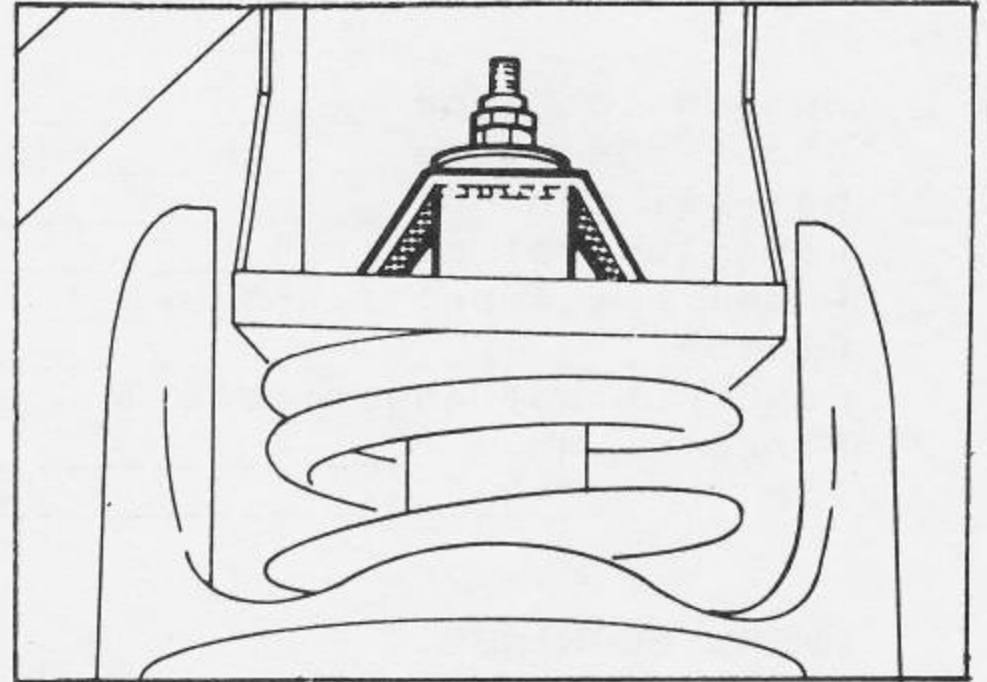

Fig.59 Shock absorber top mount.
4. Remove shock absorber top mounting nut and locknut Fig.59